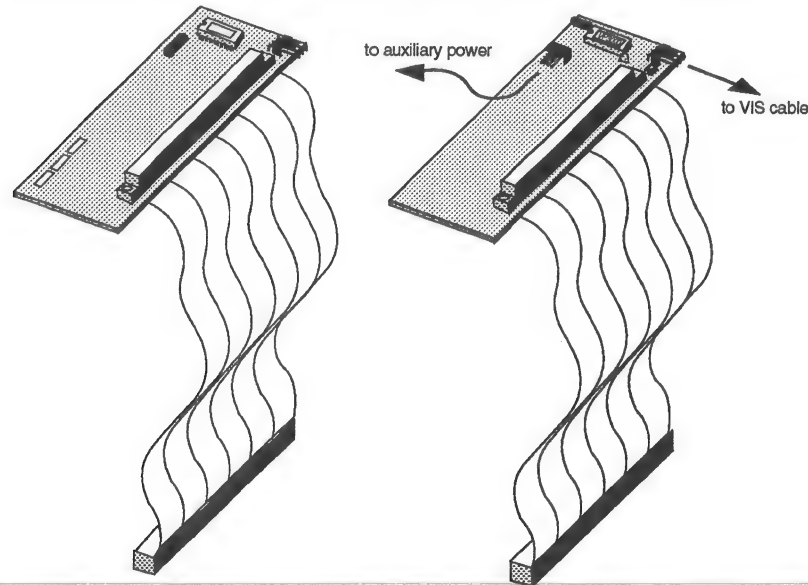

Figure 1-1
*Model V2200 adapter cards are labeled "TOTAL SYSTEMS Video Expansion Kit". Model V3000 adapter cards are labeled "TOTAL SYSTEMS GEMINI ULTRA VIDEO EXPANSION KIT" just below the P2 connector. A chip labeled "V3000" is inserted in the socket at U1. There are **TWO**, rather than **ONE**, rust-colored 90° connectors at the left end of the adapter card. See Figure 1-1 to help you identify your adapter card.*